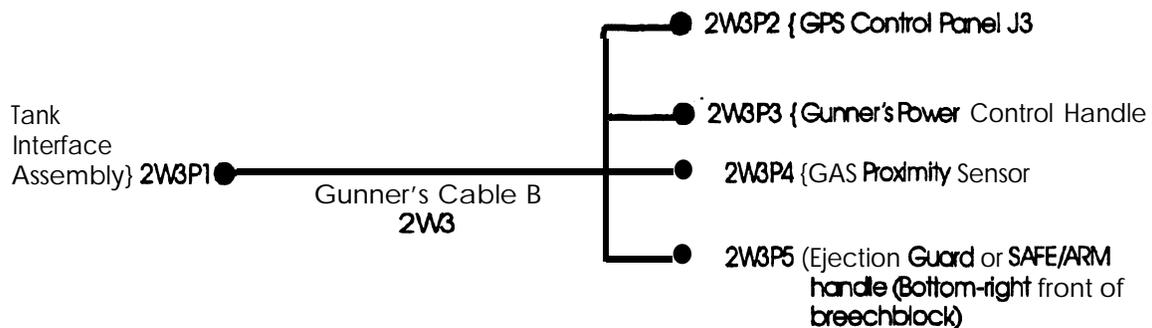

Figure 2-45. Gunner's Crew Station Cable 2W3 Wire Diagram
2.4.7.4.1.7 Gunner's Crew Station Cable 2W3 Initial Position. Position Gunner's Crew Station cable 2W3 to make the connections shown in Figure 2-45 as follows: